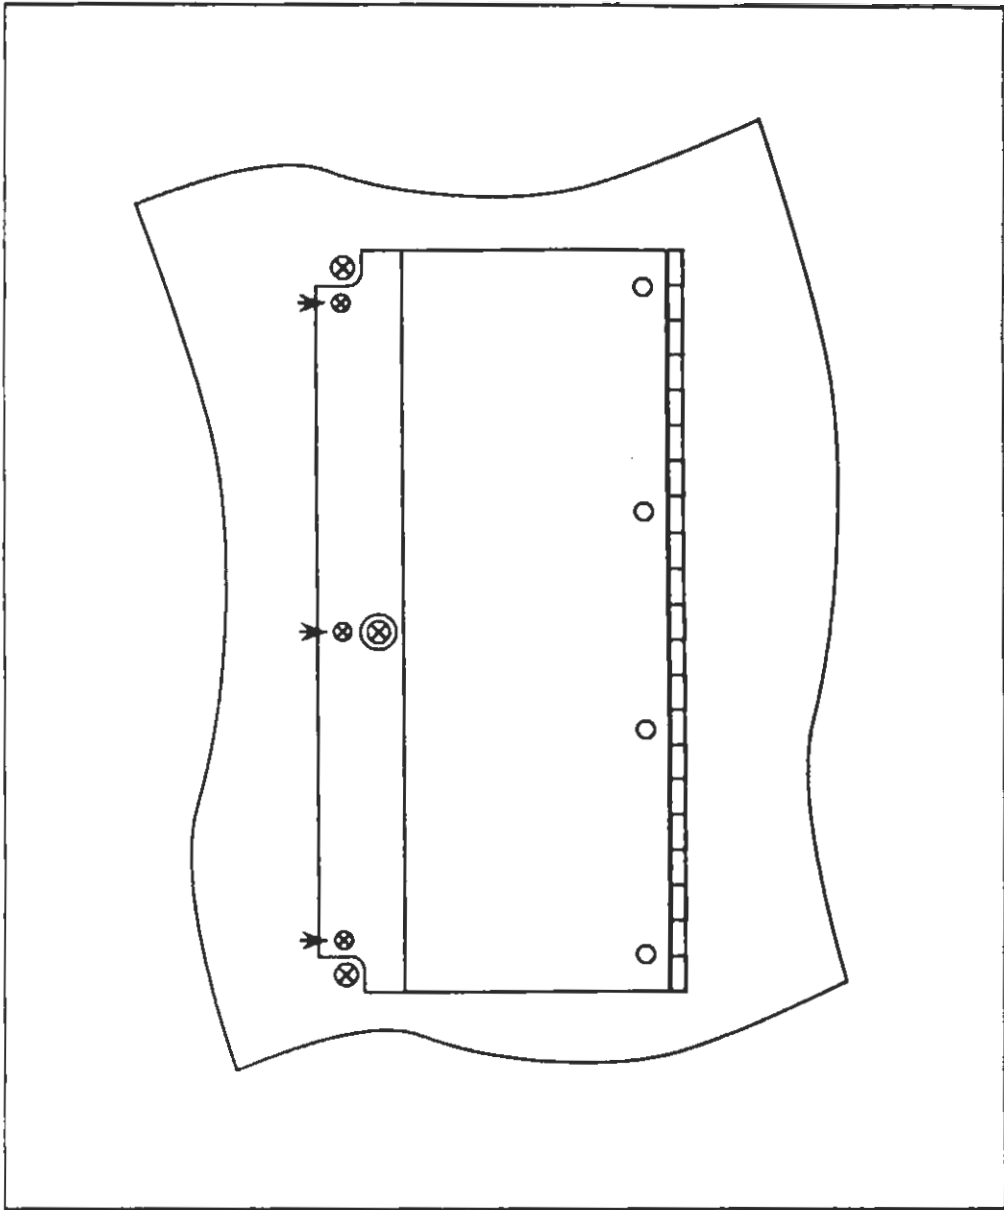

Figure 4. Access Cover
2. Open the access door on the right side of the chassis (as viewed from the front of the system) by removing the three screws. See Figure 4.
1. Close the side access door and secure with the three screws that were removed. See Figure 4.